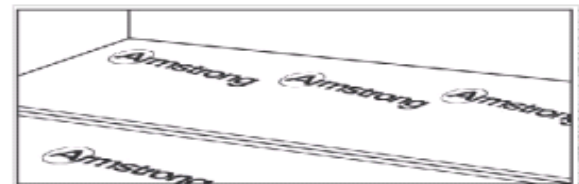

Fig. 4
2. Place additional sections with butt seams as the installation progresses. If subfloor is concrete or for any existing floor over concrete, tape the seams with clear plastic tape (Fig. 4).